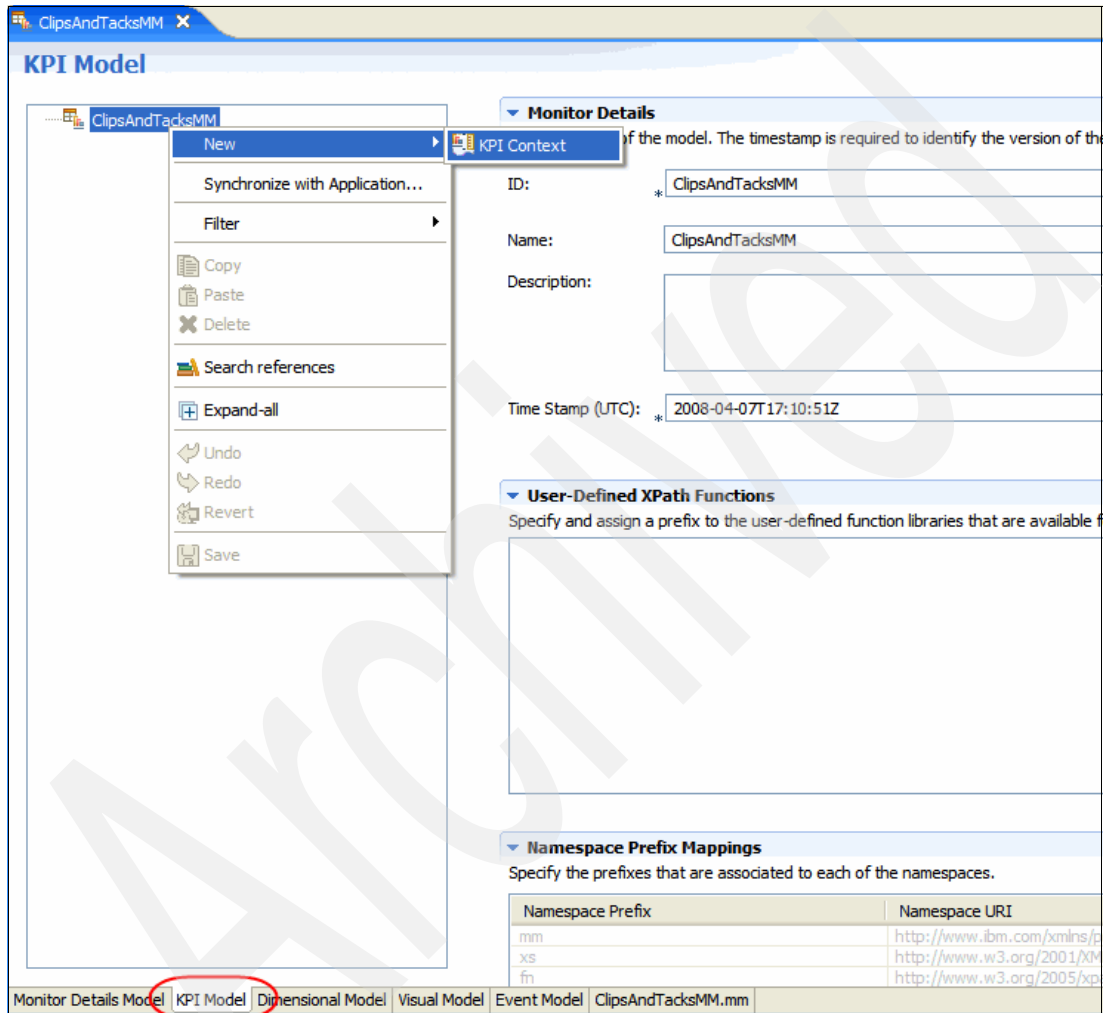

Figure 6-54 KPI Model tab
1. Click the **KPI Model** tab (Figure 6-54). Right-click **ClipsAndTacksMM** and select **New** → **KPI Context**.